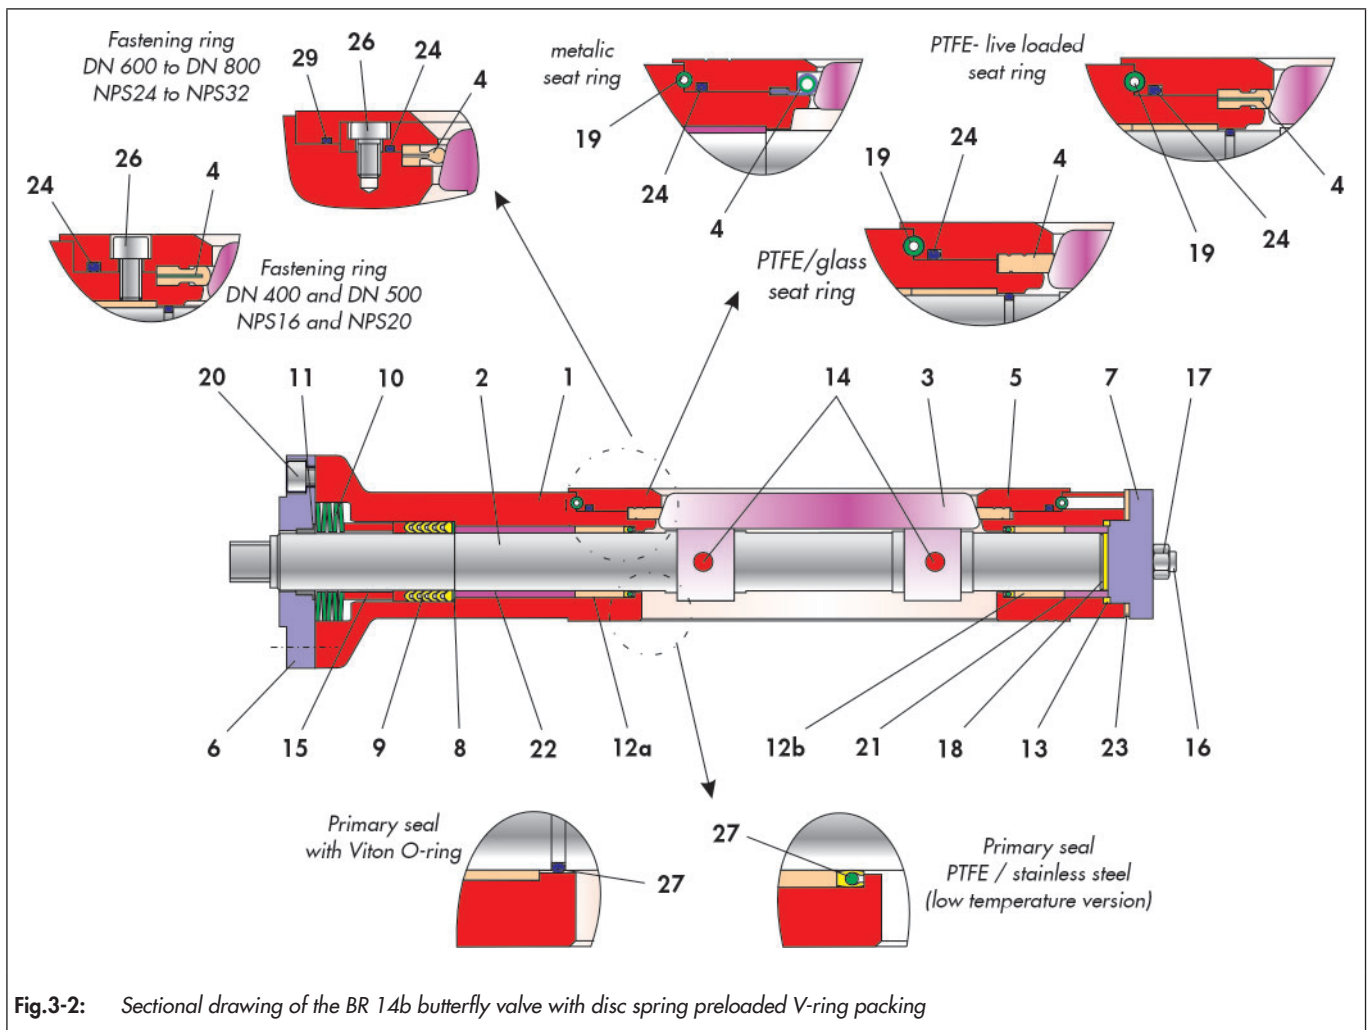

Fig.3-2: Sectional drawing of the BR 14b butterfly valve with disc spring preloaded V-ring packing
- ⇒ Insert the preassembled cover (7) into the bearing bore in the valve body (1) and adjust with the stud bolts (16).
- ⇒ Tighten the cover (7) with the nuts (17) evenly and in a criss-cross pattern.
- ⇒ Push the disc (8) over the free shaft end into position in the valve body.
- ⇒ Push the PTFE V-ring packing (9) over the control shaft into the body bore and press in with an assembly sleeve. Refer to the sectional drawing Fig. 3-2 for the arrangement of the V-ring packing.
- ⇒ Push the thrust ring (15) over the control shaft and press it into position in the valve body.
- ⇒ Insert the disc spring set (10). Refer to the sectional drawing Fig. 3-2 for the arrangement of the disc springs.
- ⇒ Press the bearing bush (11) into the stuffing box flange (6).
- ⇒ Fit the preassembled stuffing box flange (6) smoothly over the body flange and adjust with screws (20).
- ⇒ Tighten the screws (20) evenly in a criss-cross pattern.